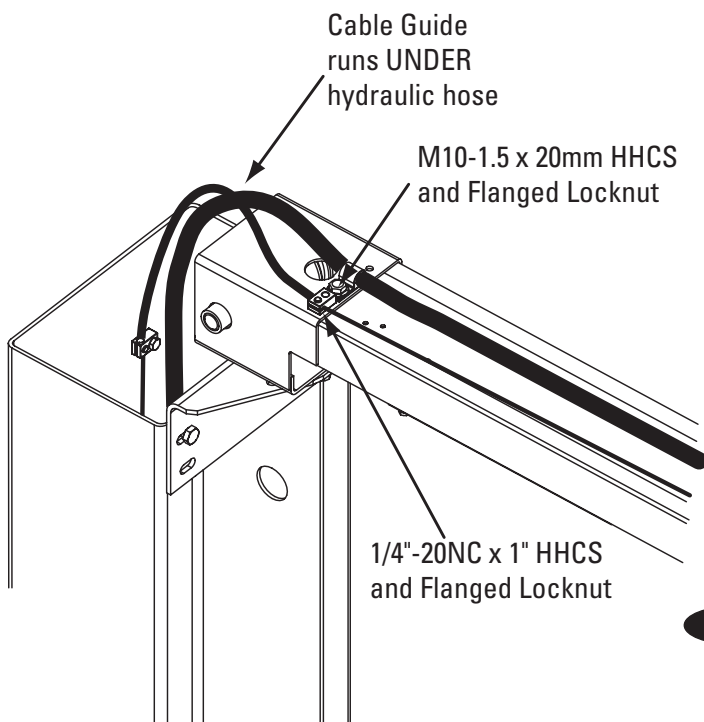
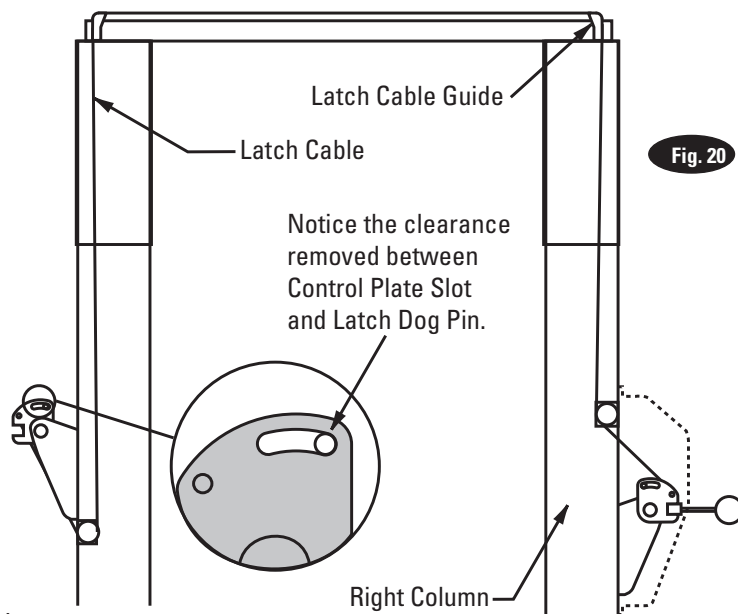
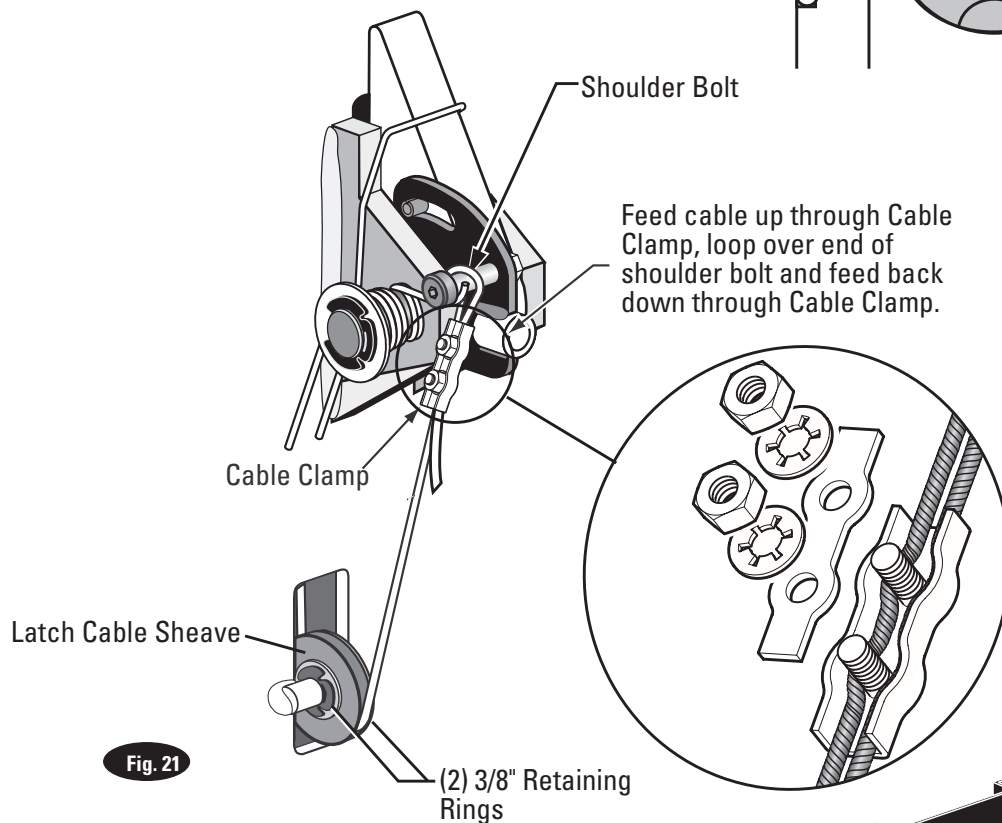

Fig. 18a
Fig. 20
Fig. 21
- Attach latch cable conduit guide brackets to overhead as shown, Fig. 18a & Fig. 18b. Always use the holes on the approach side of the lift. HHCS should be in hole nearest the center of the overhead, Fig. 18b.
- Route cable up inside column and through the latch cable guide, Fig. 18a & Fig. 20.
- Continue routing cable to the left column latch cable guide, Fig. 18a & Fig. 20, routing the cable through the left column latch cable guide, Fig. 18a.
- Bring the cable down inside the left column and feed the end of the cable through the lower latch cable sheave slot so that the cable is now back outside the column, Fig. 21.
- Route cable under the bottom side of the latch cable sheave, Fig. 21.
- Insert cable in cable clamp along one side, loop around shoulder screw and back down, inserting cable along other side of cable clamp, Fig. 21. Place top back on clamp, barely tightening.
- Next, pull the control plate down, Fig. 20 & Fig. 21, to eliminate any clearance between the control plate slot and the latch dog pin, Fig. 20.